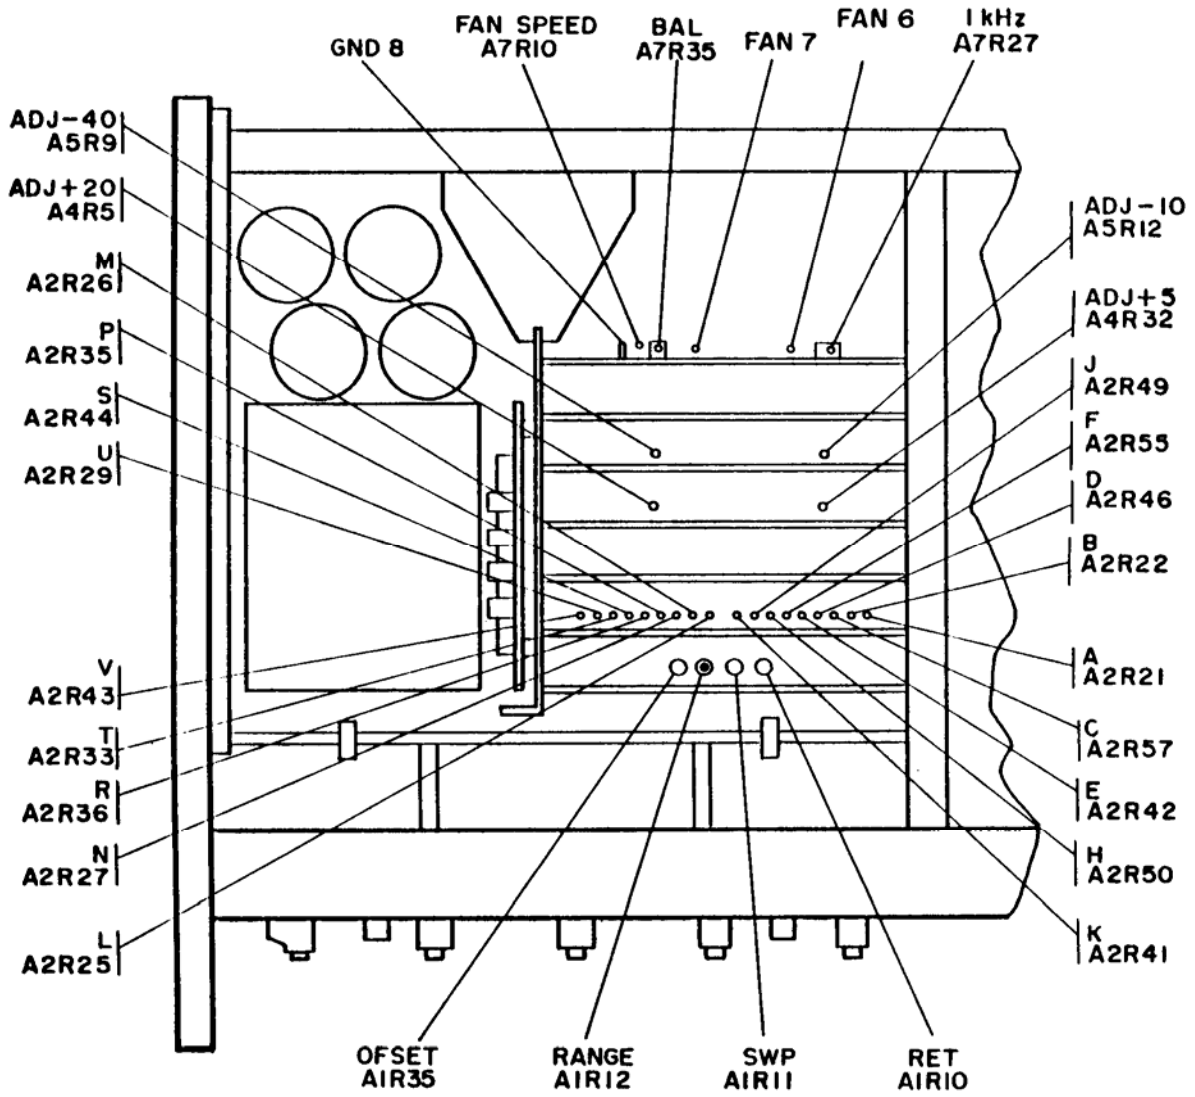
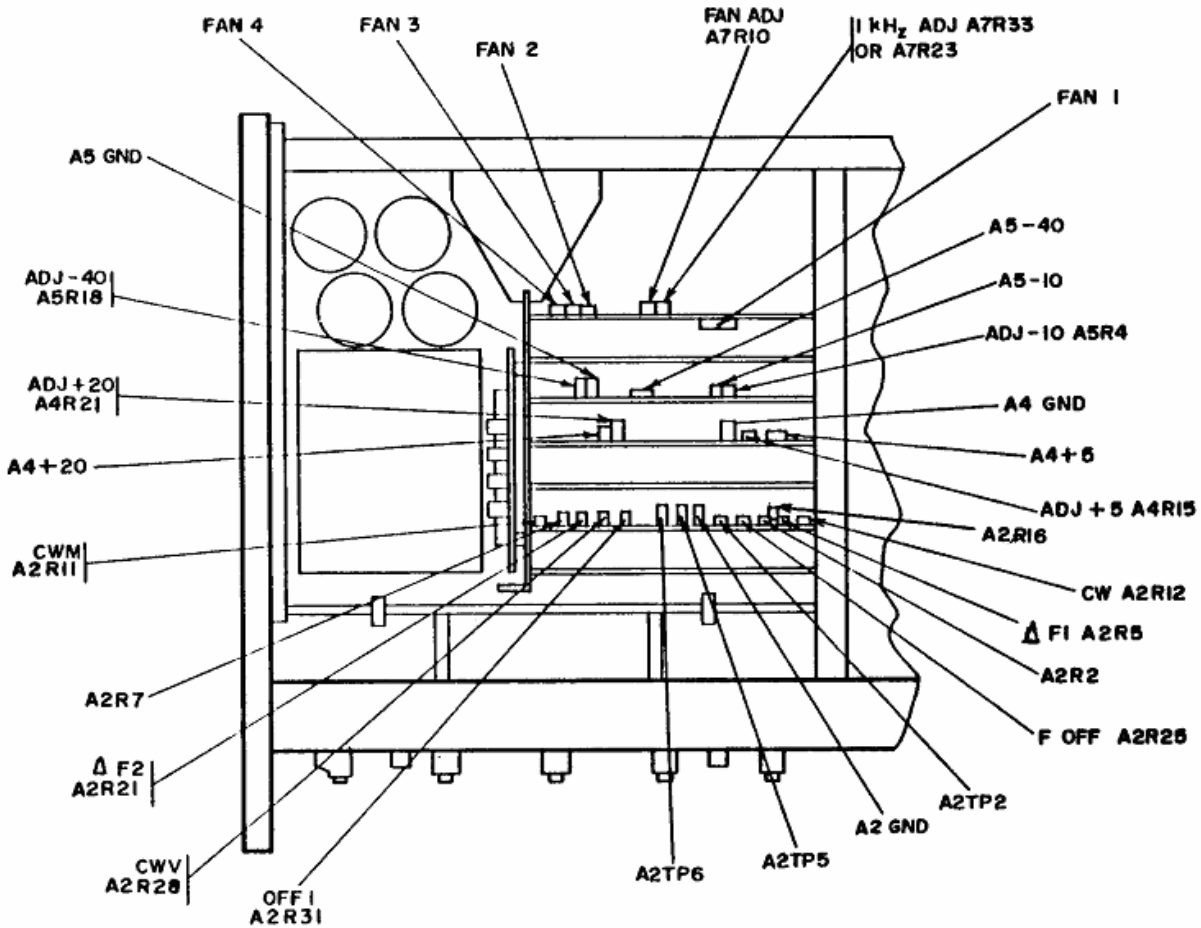
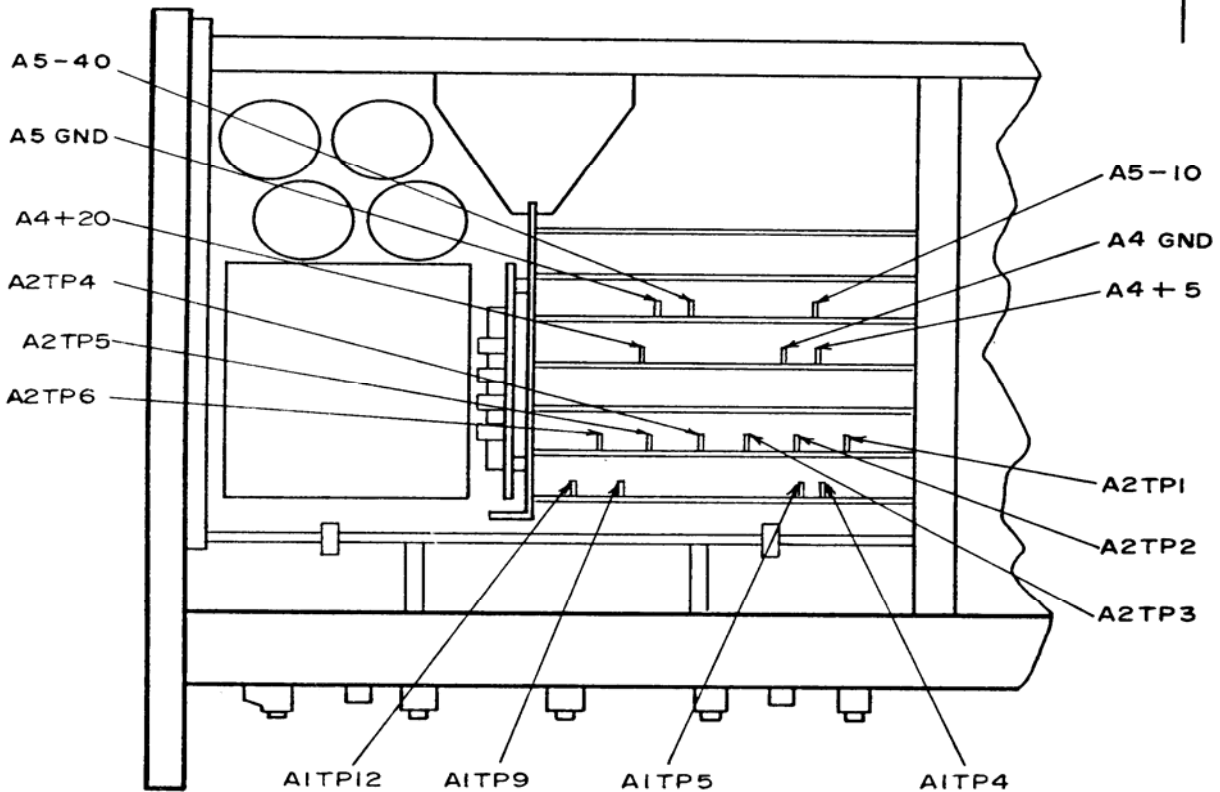

Figure 1. Model 8620C - partial top view.
Figure 2. Model 8620A - partial top view.
Figure 3. Model 8620C - partial top view.
- (3) Set **1 kHz SW WV/OFF (AM-MOD)** switch (rear panel) to **1 kHz SQ WV (1 kHz)**.
- (4) Press **CW** pushbutton and set **RF** switch to **ON**.
- (5) Adjust **POWER LEVEL** control cw to drive microwave frequency counter. If microwave frequency counter does not indicate between 0.95 and 1.05 kHz, perform **b** below.
**b. Adjustments.** Adjust 1 kHz A7R27 (fig. 1) (A7R23 or A7R33, fig. 2) for 1.00 kHz indication on microwave frequency counter (R).
- (1) Select calibration scale with **BAND** selector.
- (2) Connect multimeter between A2TP3 and A4 GND (fig. 3).
(1) Adjust A A2R21 (fig. 1) for  $0.000$  V dc on multimeter (R).
(2) Adjust B A2R22 (fig. 1) for  $10.000$  V dc on multimeter (R).
(1) Set **STOP MARKER** (red pointer) to the **0-V** mark on calibration scale.
(2) Connect multimeter to A2TP2 (fig. 3) and ground. If multimeter does not indicate between  $-0.001$  and  $+0.001$  V dc, perform **b** (1) below.
(3) Set **STOP MARKER** pointer to the **10-V** mark on calibration scale. If multimeter does not indicate between  $+9.995$  and  $+10.005$  V dc, perform **b** (2) below.
(4) Set **START MARKER** pointer to the **0-V** mark on calibration scale and connect multimeter to A2TP1 (fig. 3). If multimeter does not indicate between -0.001 and +0.001 V dc, perform **b** (3) below.
(5) Set **START MARKER** pointer to the **10-V** mark on calibration scale. If multimeter does not indicate between +9.995 and +10.005 V dc, perform **b** (4) below.
- (1) Adjust S A2R44 (fig. 1) for 0.000 V dc on multimeter (R).
- (2) Adjust P A2R35 (fig. 1) for 10.000 V dc on multimeter (R).
- (3) Adjust K A2R41 (fig. 1) for 0.000 V dc on multimeter (R).
- (4) Adjust N A2R27 (fig. 1) for 10.000 V dc on multimeter (R).
- (1) Connect multimeter to A2TP5 and A2 GND (fig. 2). Press **CW** pushbutton.
- (2) Set white **CW** pointer to right end of scale (10 V) and make fine adjustments for +10  $\pm$ 0.001 V dc indication on multimeter.
- (3) Move positive lead to A2TP6 (fig. 2) and press **START** pushbutton. If multimeter does not indicate between +9.995 and +10.005 V dc, perform **b** below.
- (4) Move positive lead to A2TP5 (fig. 2).
- (5) Press **CW** pushbutton and adjust **CW** control for 4.000  $\pm$ 0.001 V dc indication on multimeter.
- (6) Move positive lead to A2TP6 and press **START** pushbutton. If multimeter does not indicate between +3.990 and +4.010 V dc, perform **b** (2) below.
- (1) Adjust CWM A2R11 (fig. 2) for 10.000 V dc on multimeter (R).
- (2) Adjust CWM A2R11 (fig. 2) for 4.000 V dc on multimeter and repeat **a** (1) through (6) above (R).
- (1) Set **STOP MARKER** pointer to the **5-V** mark on calibration scale and adjust **MANUAL** control full ccw.
- (2) Set **START MARKER** pointer to the **0-V** mark on calibration scale and press **MARKER SWEEP** pushbutton.
- (3) Move multimeter positive lead to A2TP5 (fig. 3). If multimeter does not indicate between -0.001 and +0.001 V dc, perform **b** (1) below.
- (4) Set **START MARKER** pointer to the **10-V** mark on calibration scale. If multimeter does not indicate between +9.995 and +10.005 V dc, perform **b** (2) below.
(5) Set **STOP MARKER** pointer to the **0-V** mark on calibration scale and turn **MANUAL** control fully cw. If multimeter does not indicate between -0.005 and +0.005 V dc, perform **b** (3) below.